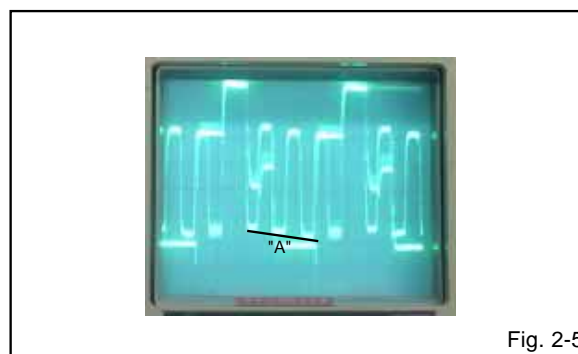

Fig. 2-5
5. Press the LEFT/RIGHT button on the remote control until the section "A" becomes a straight line. **(Refer to Fig. 2-5).**